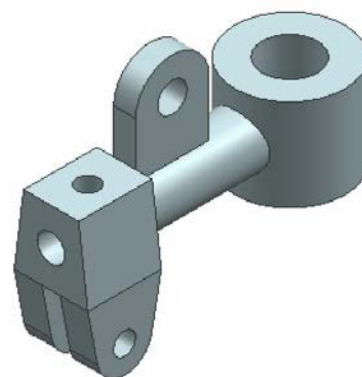

Figure 13-119 Resultant model
3. Select the **Extend Incident Face** option from the **Overflow Behavior** drop-down list in the **Settings** rollout and then choose the **OK** button from the dialog box to accept the changes. The resultant model is shown in Figure 13-119.